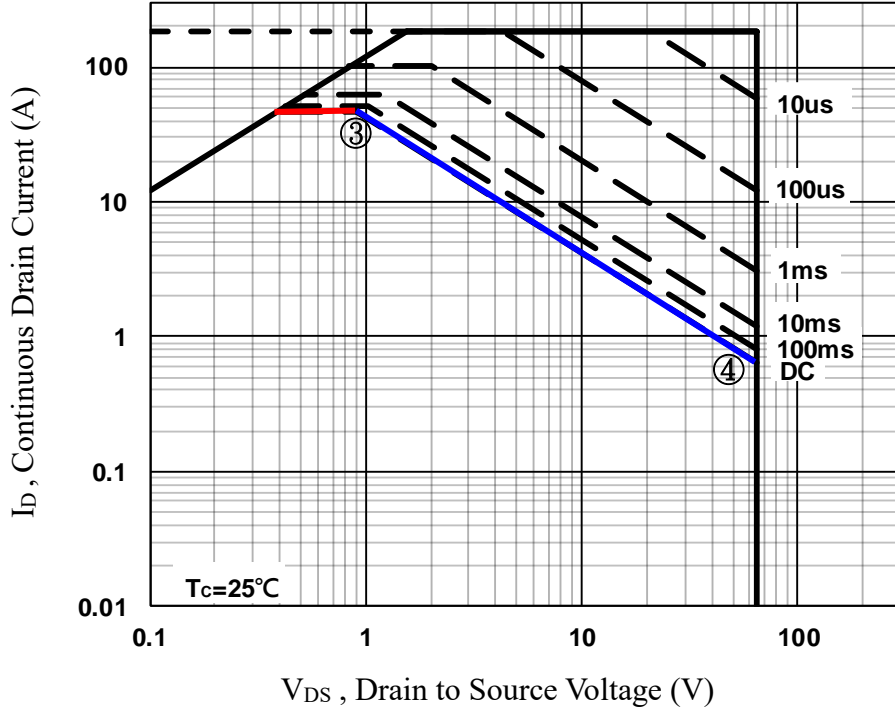

Fig. 2 The SOA of PDC6986BZ-5 for DC curve
where $T_{J(max)}$ is the maximum operating junction temperature, T_C is the case temperature, $R_{\theta JC}$ is the junction-to-case thermal resistance, $Z_{\theta JC}$ is the normalized transient thermal resistance and K is the normalized on-state resistance. Fig. 2 shows the continuous current (DC) operation of SOA and the drain current and drain to source voltage of the point ③ are shown as